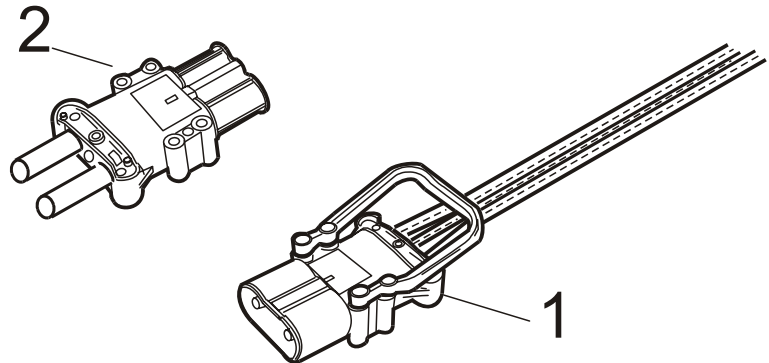

Fig. 40 Charger adapter
- Charger adaptor Fig. 40 (1) comes with the battery.
- Remove the charger adaptor Fig. 40 (2).